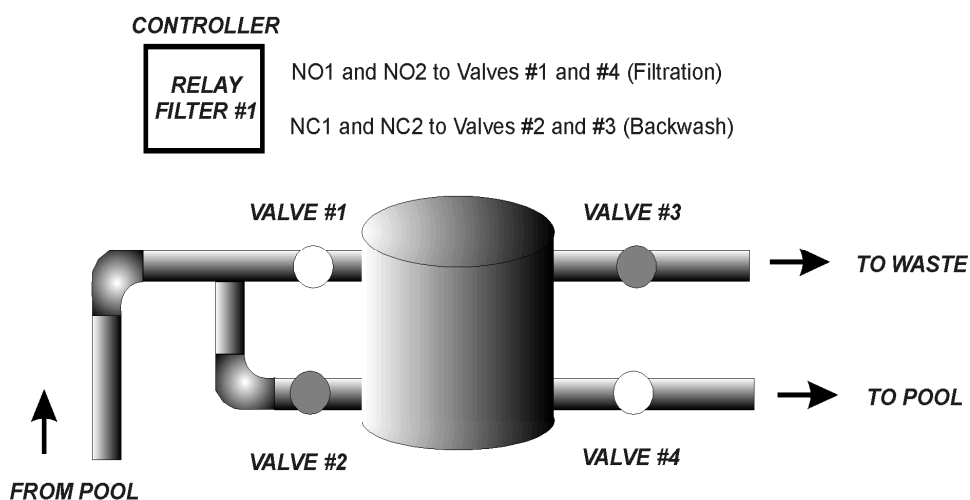

Figure 55. Single Filter Backwash
As shown in **Figure 55**, backwashing of a single filter is controlled with four valves that are connected to the Normally Open (NO) and Normally Closed (NC) poles of Filter Relay 1.